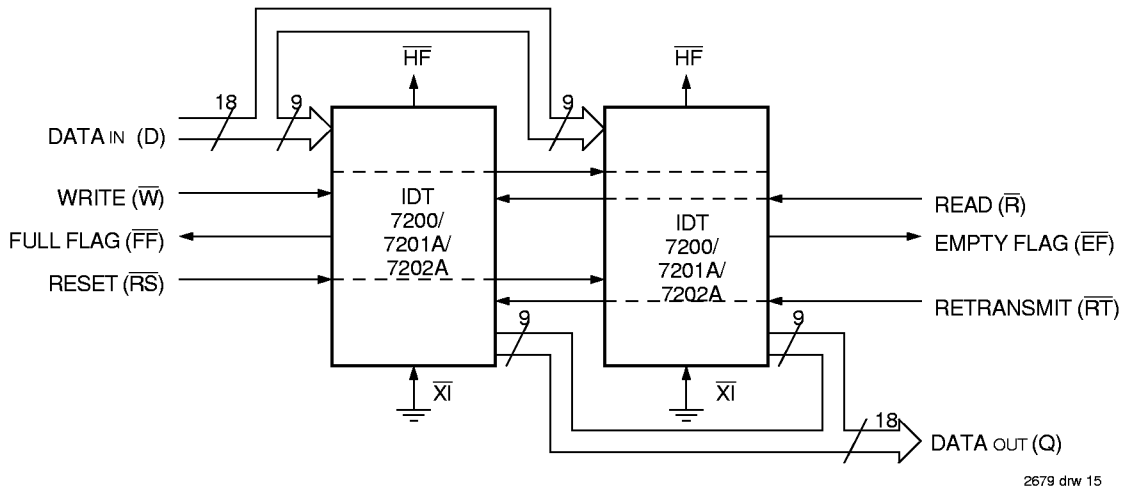

Figure 13. Block Diagram of 256 x 18, 512 x 18, 1,024 x 18 FIFO Memory Used in Width Expansion Mode
Word width may be increased simply by connecting the corresponding input control signals of multiple devices. Status flags ( $\overline{EF}$ ,  $\overline{FF}$  and  $\overline{HF}$ ) can be detected from any one device. Figure 13 demonstrates an 18-bit word width by using two IDT7200/7201A/7202As. Any word width can be attained by adding additional IDT7200/7201A/7202As (Figure 13).
2. For Flag detection see section on Width Expansion and Figure 13.